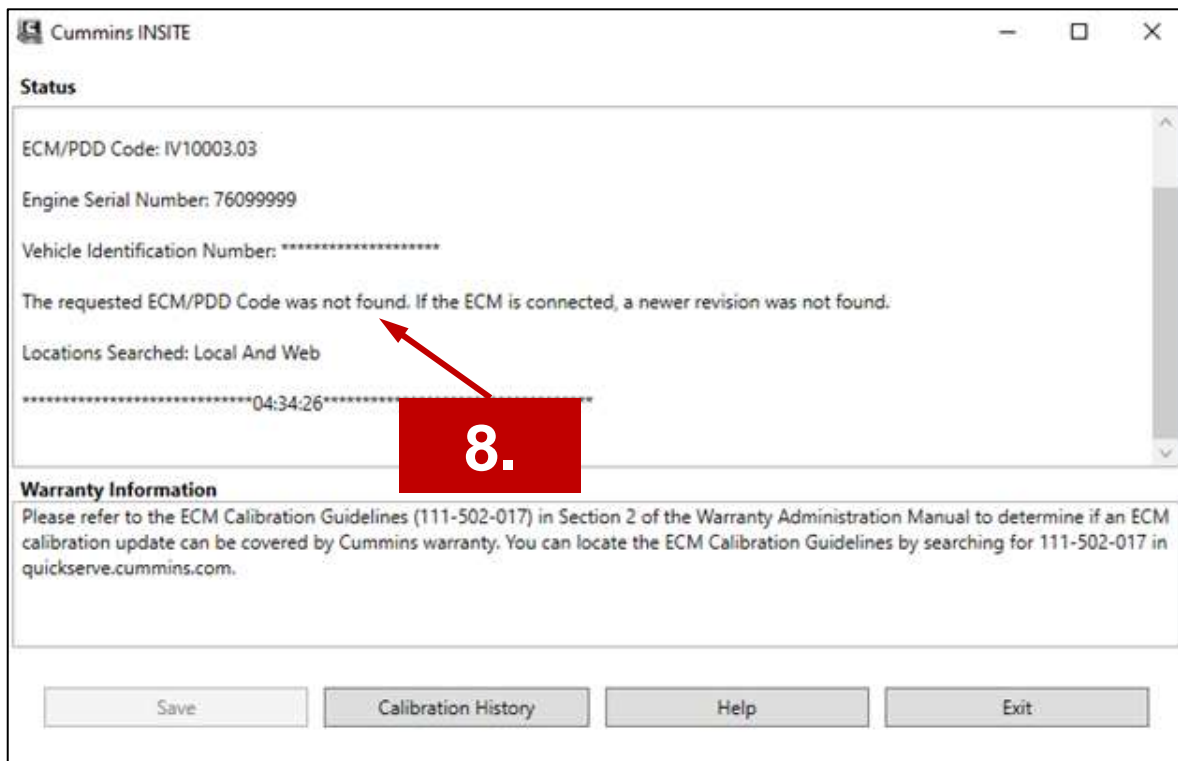

Figure 12. Step 8 - Calibration not found screen.
The following screen will appear if the requested calibration is not found (*Figure 12*):
Step 9: Click the “Exit” button. *Figure 12*